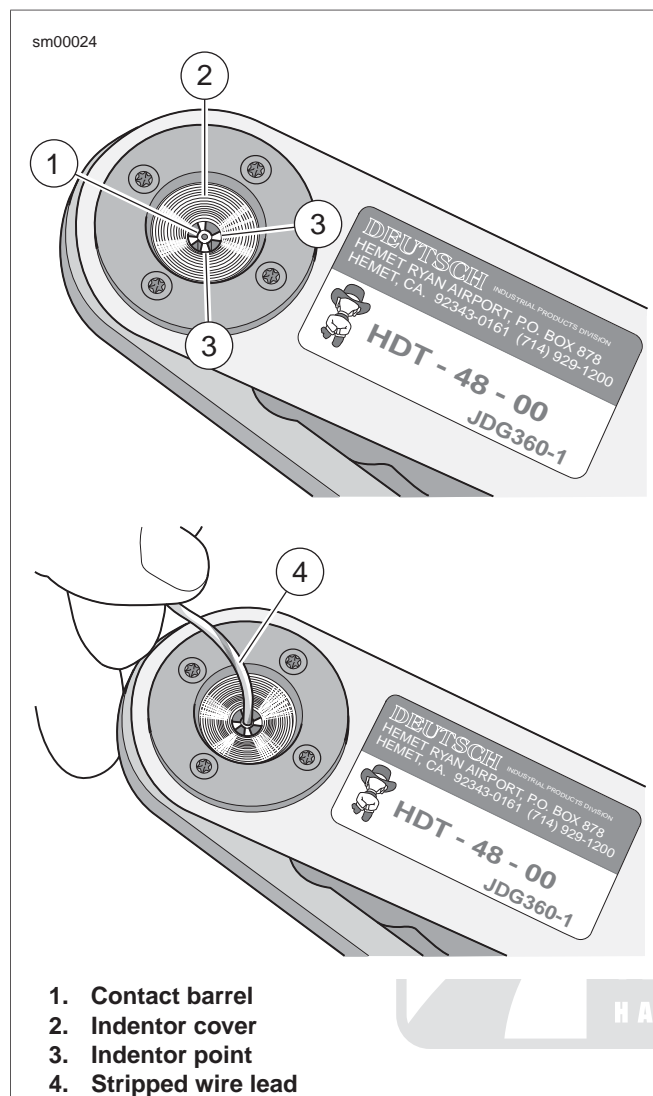

Figure A-20. Deutsch Solid Barrel
1. See Figure A-20. Turn tool over and drop contact barrel (1) into indenter cover (2) hole with the wire end out.
3. Slowly squeeze handles of crimp tool until contact is centered between the four indenter points (3).
4. Insert bare wire core strands of stripped wire lead (4) into contact barrel. Squeeze handle of crimp tool until tightly closed. Tool automatically opens when the crimping sequence is complete.